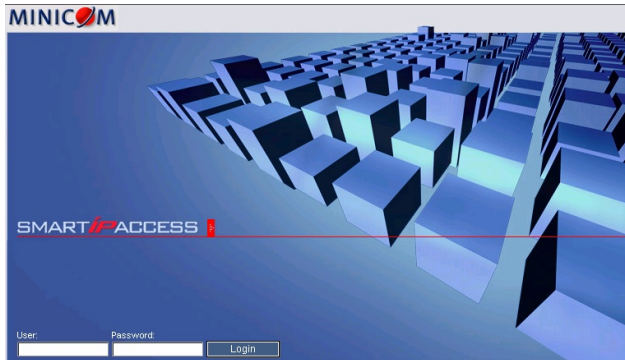

Figure 6 Login page
2. Type the IP address of the Smart IP Access system - `https://IP address/config` and press **Enter**. The login page appears, see Figure 6